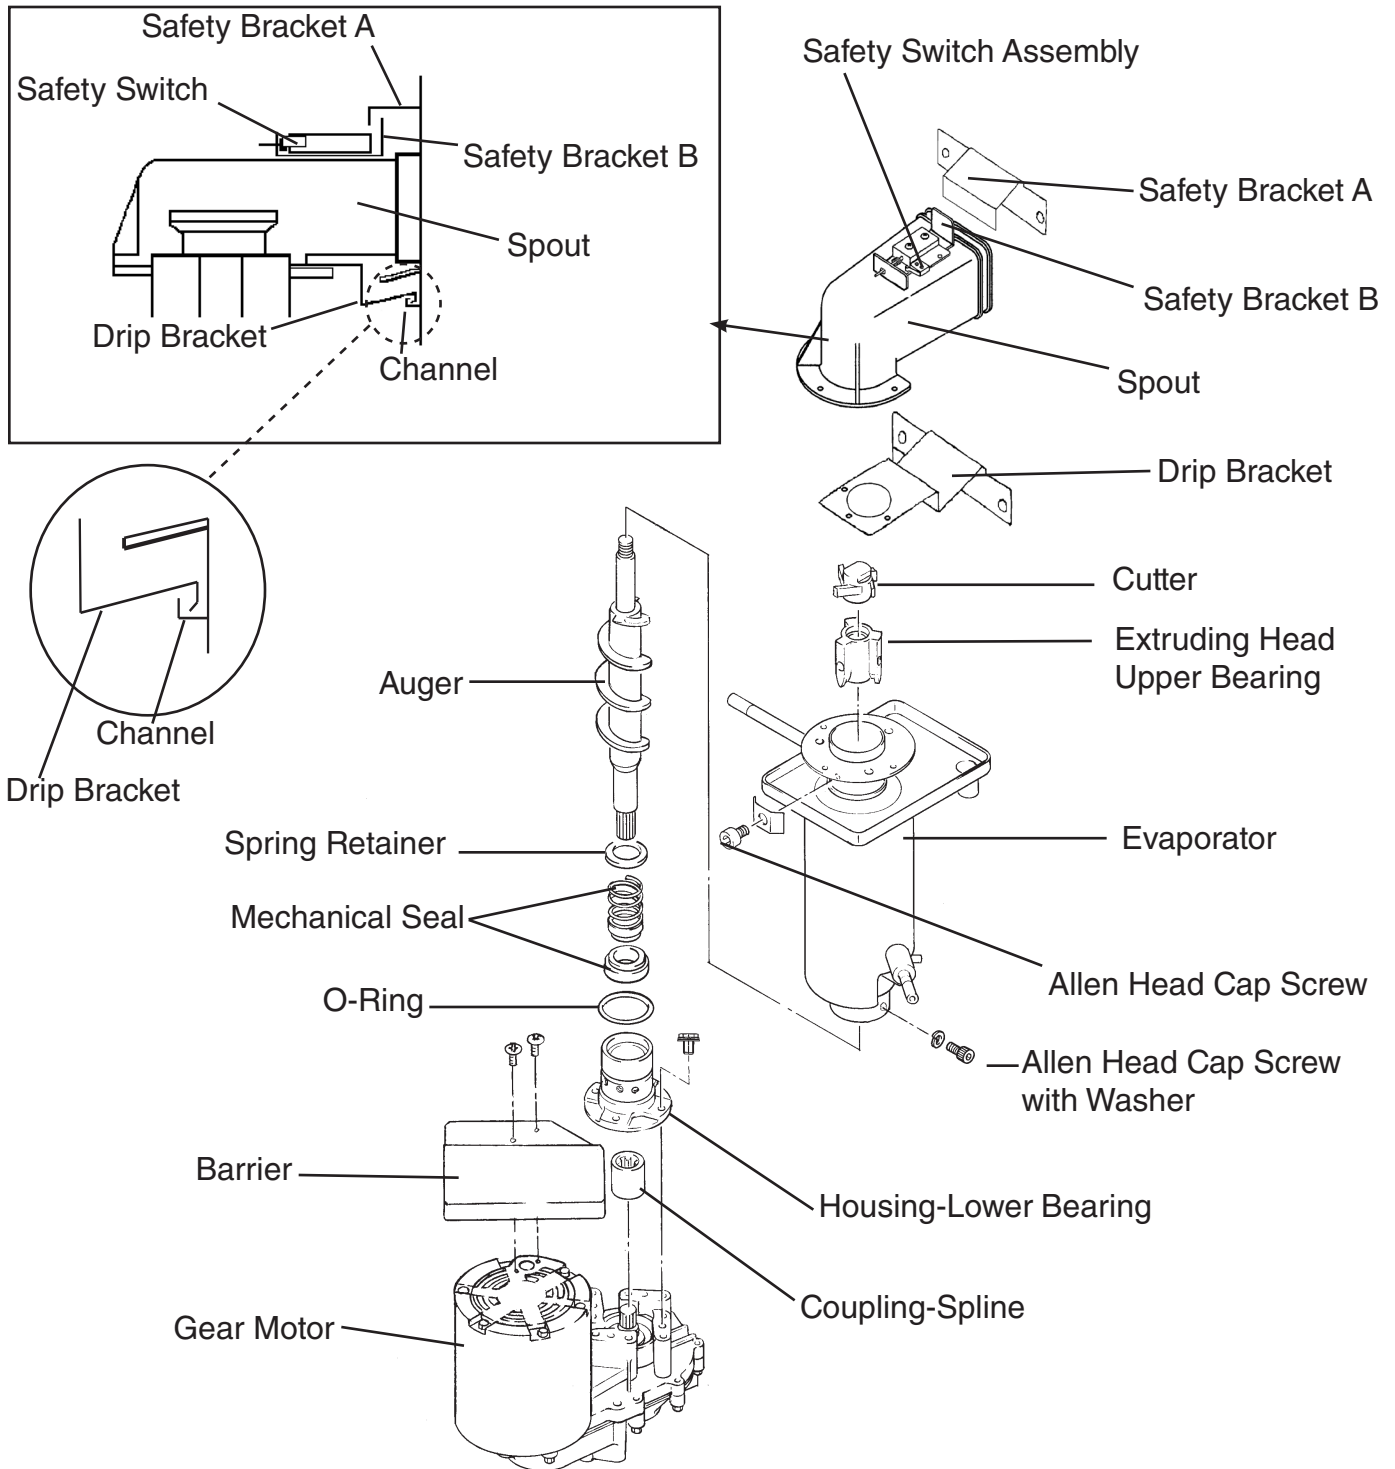

Fig. 1
- 7) Replace the spout. Make sure that the drip bracket is in the channel and that safety bracket B is behind safety bracket A. See Fig. 1.
- 6) Replace the spout. Make sure that the drip bracket is in the channel and that safety bracket B is behind safety bracket A. See Fig. 1.
- 7) Replace the cutter and spout. Make sure that the drip bracket is in the channel and that safety bracket B is behind safety bracket A. See Fig. 1.
- 9) Replace the removed parts in the reverse order of which they were removed. When replacing the spout, make sure that the drip bracket is in the channel and that safety bracket B is behind safety bracket A. See Fig. 1.
- 18) Replace the removed parts in the reverse order of which they were removed. When replacing the spout, make sure that the drip bracket is in the channel and that safety bracket B is behind safety bracket A. See Fig. 1.
- 15) Replace the removed parts in the reverse order of which they were removed. When replacing the spout, make sure that the drip bracket is in the channel and that safety bracket B is behind safety bracket A. See Fig. 1.